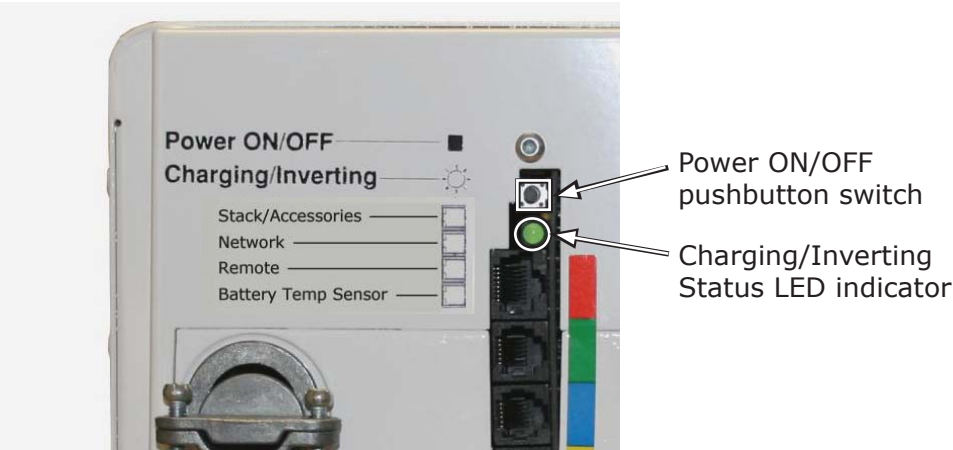

Figure 3-5, Power Switch and Status Indicator
**ON/OFF Switch** - The inverter can be turned on and off by lightly pressing and releasing the Power ON/OFF switch on the front of the inverter (see Figure 3-5). When the inverter is first connected to the batteries, or when its automatic protection circuit has turned the inverter off, the ON/OFF switch will need to be pressed to start the unit (or reset per Section 4.4). Once the inverter has been turned on, pressing the Power ON/OFF switch alternately turns the inverter on and off.
**Status LED Indicator** - The status indicator is a green LED (Light Emitting Diode) that provides information on the operational mode of the inverter. Watch this indicator (see Figure 3-5) for at least 10 seconds to determine the inverter’s operational condition from the information below: